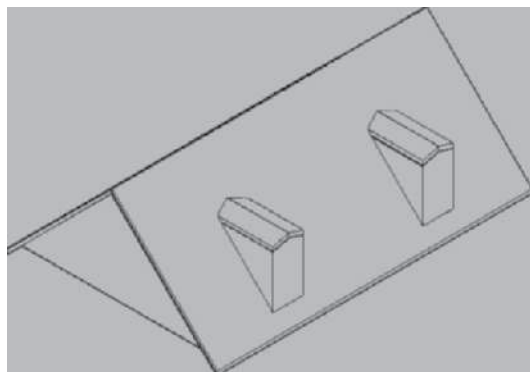

FIGURE 7.65 Completed roof slab edit
19. Select the View tab, choose **3D Hidden** from the Visual Styles flyout menu of the Visual Styles panel of the View tab to view the roof as shown in Figure 7.65.